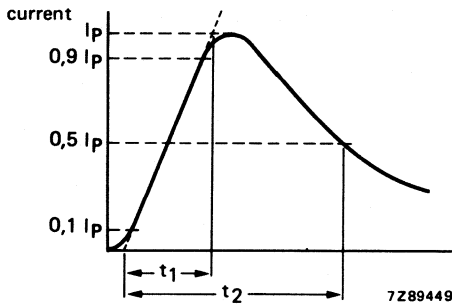

Fig. 5.
6. High energy surges are generally of longer duration. The max. energy for 1 minute 10/1000  $\mu\text{s}$  is given as a reference for long duration impulses. This impulse can be characterized by peak current  $I_p$  and impulse width  $t_2$  (virtual time to half  $I_p$  value, defined in IEC 60-2 section 6), see Fig. 5. If  $V_p$  is the clamping voltage corresponding to  $I_p$ , the energy absorbed in the VDR is determined by equation  $E = K \cdot V_p \cdot I_p \cdot t_2$ ; K depends on  $t_2$ . When  $t_1$  is 8 to 10  $\mu\text{s}$  and  $t_2 = 20 \mu\text{s}$ ,  $K = 1$ ; when  $t_2 = 50 \mu\text{s}$ ,  $K = 1,2$ ; when  $t_2 = 100 \mu\text{s}$ ,  $K = 1,3$ ; when  $t_2 = 1000 \mu\text{s}$ ,  $K = 1,4$ .